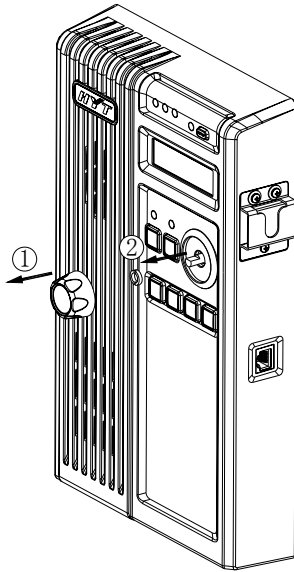

Figure 3
1. Remove the Volume Control knob ① shown as Figure 3.
2. Remove the nut ② using a special spanner, shown as Figure 3.